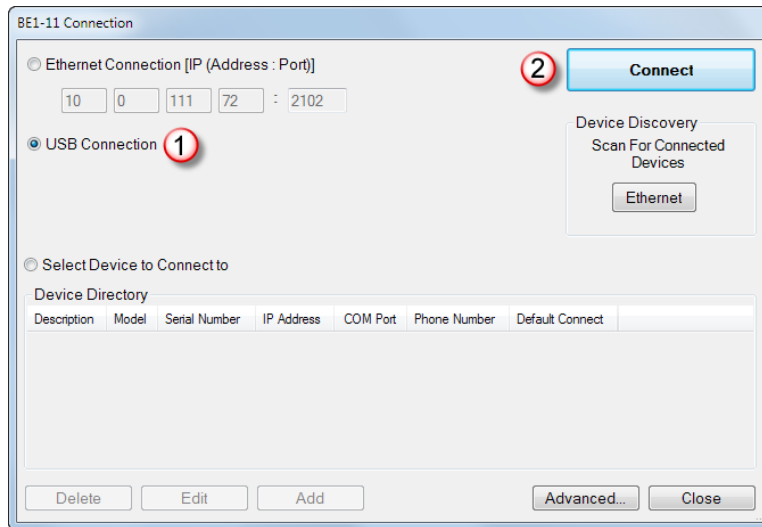

Figure 2-6. BE1-11 Connection Screen
The BE1-11 Connection screen shown in Figure 2-6 appears. Select USB Connection and then click the Connect button.
- Step 2: The BE1-11 Connection screen appears. See Figure 2-6. Select USB Connection and click Connect.